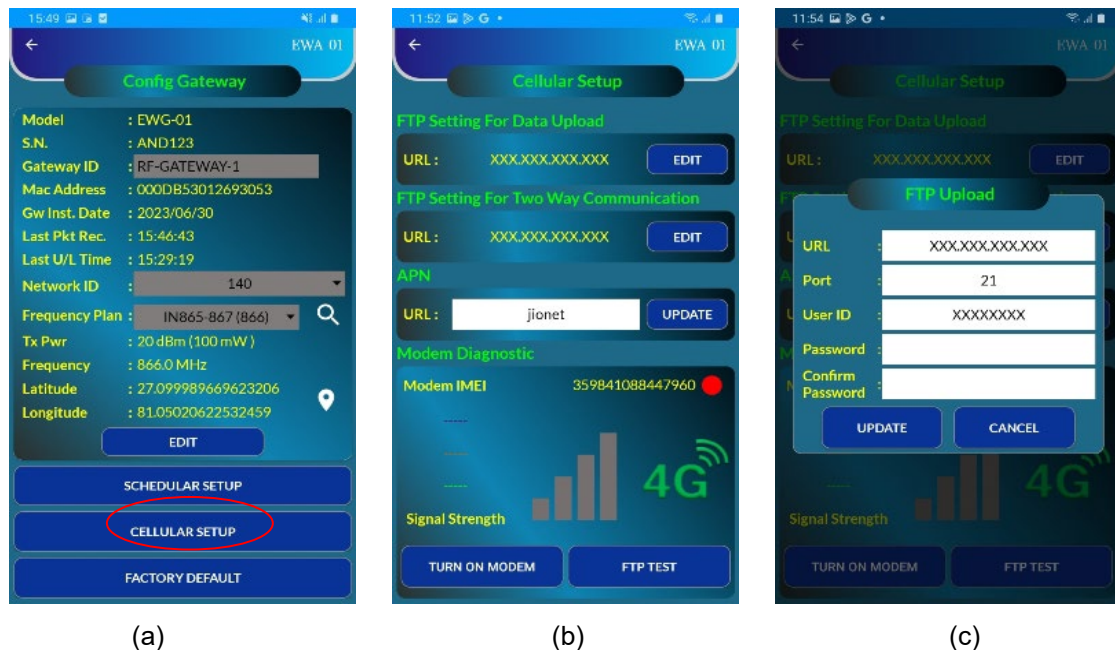

Figure 5-10
- Click on the back arrow shown at the top left corner of the screen (figure 5-9 (a)) and press the “CELLULAR SETUP” tab as shown in the figure 5-10 (a). Screen as shown in the figure 5-10 (b) will appear. This screen is to set the FTP parameters required for uploading the data to remote FTP server.